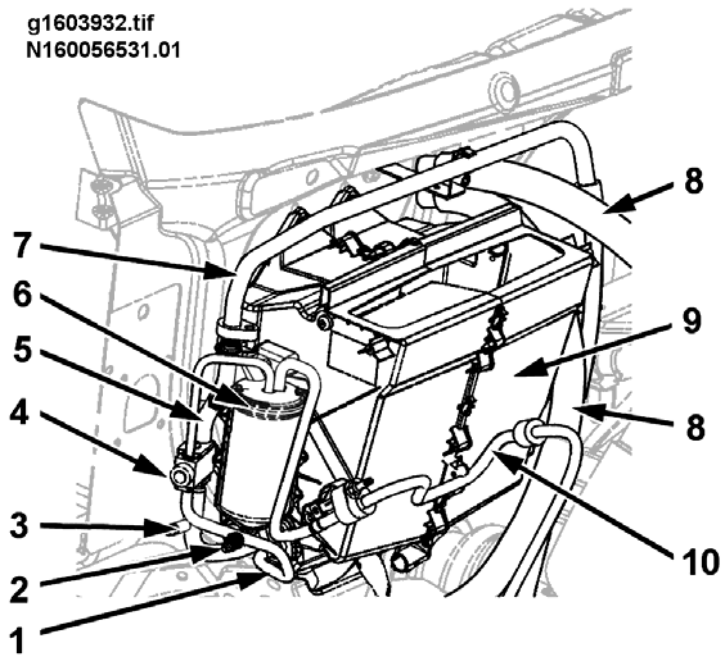

Figure 32 Evaporator Housing (Shown with Cowl Tray Removed)
3. Disconnect wiring to thermistors (2 and 5, Figure 32) and remove strap locks, as necessary, to allow connectors to be moved out of the way.
4. Unclip or remove clamps securing condenser-to-evaporator line (10) to evaporator housing (9).
5. Disconnect end of condenser-to-evaporator line from filter-drier (6).
6. Unclip clamps and/or strap locks securing evaporator-to-compressor line (7) to cowl.
7. Disconnect end of evaporator-to-compressor line from outlet thermistor line (5).
13. Using a new O-ring and C-plate connect end of evaporator-to-compressor line (7, Figure 32) to outlet thermistor line (5). Tighten to 19,000 to 21,000 N.mm (170 to 190 lbf-in).
15. Using a new O-ring and C-plate connect end of condenser-to-evaporator line (10, Figure 32) to filter-drier inlet fitting. Tighten to 19,000 to 21,000 N.mm (170 to 190 lbf-in).
16. Secure condenser-to-evaporator line to evaporator housing (9, Figure 32) using existing clamps.
17. Connect wiring to thermistors (2 and 5, Figure 32) and secure wires in original position using strap locks.